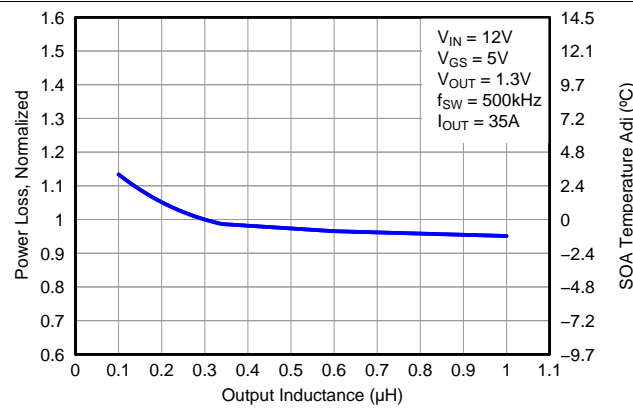

Figure 9. Normalized Power Loss vs Output Inductance
- Normalized power loss for output inductor ≈ 1.07 (Figure 9)
- SOA adjustment for output inductor $\approx 1.6^\circ\text{C}$ (Figure 9)